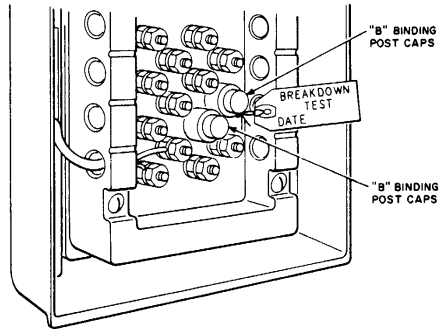

Fig. 14—F-Type Terminal Correctly Protected
- (c) Depending on the nature of the termination, at each appearance cover the tip and ring terminals of the pair or pairs and fuse mountings with red B binding post caps or binding post insulators. Then tie a linen tag, on which is written **breakdown test** and the date on one of the caps or insulators at each appearance, except at the location where the breakdown voltage is applied. It is important that the tag and string be so placed that they are not in contact with any binding posts in the terminals as, at some later date, a high-resistance fault might result due to dampness. A pair so prepared and marked as illustrated in Fig. 14.